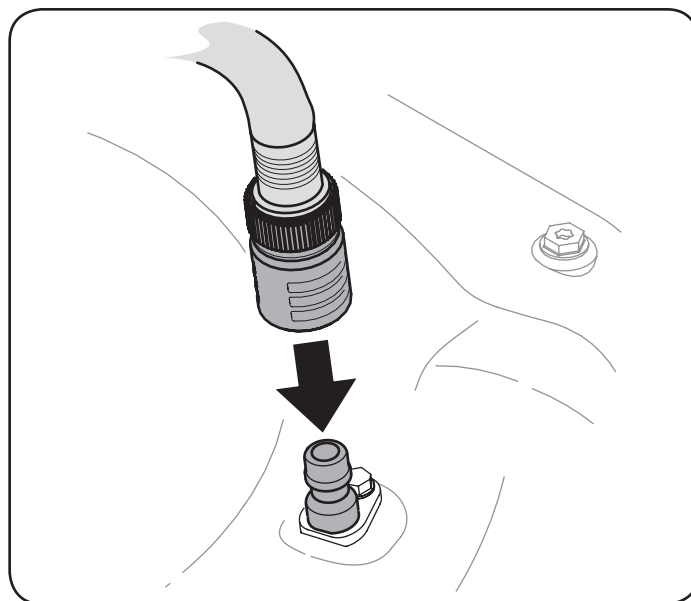

Figure 19
3. Attach the hose coupler to the water port on your deck's surface. See Figure 19.
5. Lubricate the engine crankshaft and the inner surface of the blade adapter with light oil. Slide the blade adapter onto the engine crankshaft. Place the blade on the adapter such that the side of the blade marked "Bottom" (or with part number) faces the ground when the mower is in the operating position. Make sure that the blade is aligned and seated on the blade adapter flanges. See Figure 19 inset.